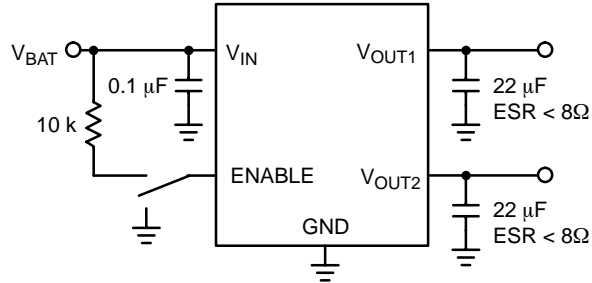

Figure 3.
**Reference Figure 3 for switched battery ENABLE application.
The ENABLE function controls V_{OUT1} . When ENABLE is high, V_{OUT1} is on. When ENABLE is low, V_{OUT1} is off. The integrity of the ENABLE pin allows it to be tied to the battery line through an external resistor (Figure 3). It will withstand load dump potentials in this configuration.